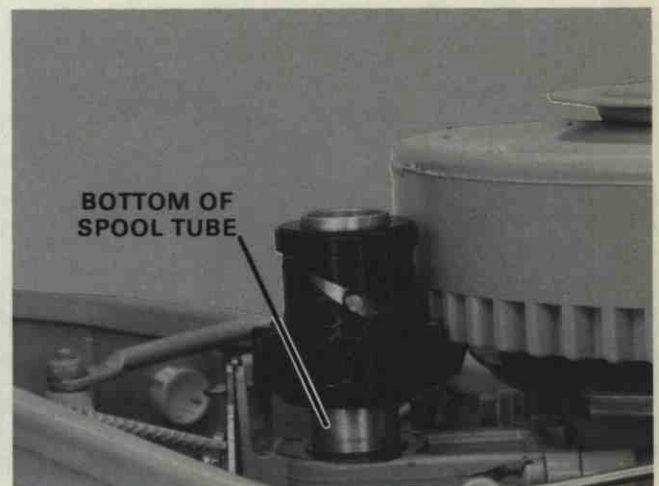

Figure 3. Lubricating Starter Pinion Gear.
3. Pull starter rope slowly until pinion gear engages flywheel ring gear and apply grease to bottom of spool tube. Figure 3.